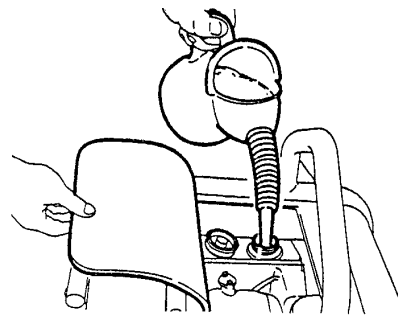

Figure 23. Refueling
2. Visually inspect to see if fuel level is low. If fuel is low, replenish with diesel fuel (Figure 23).